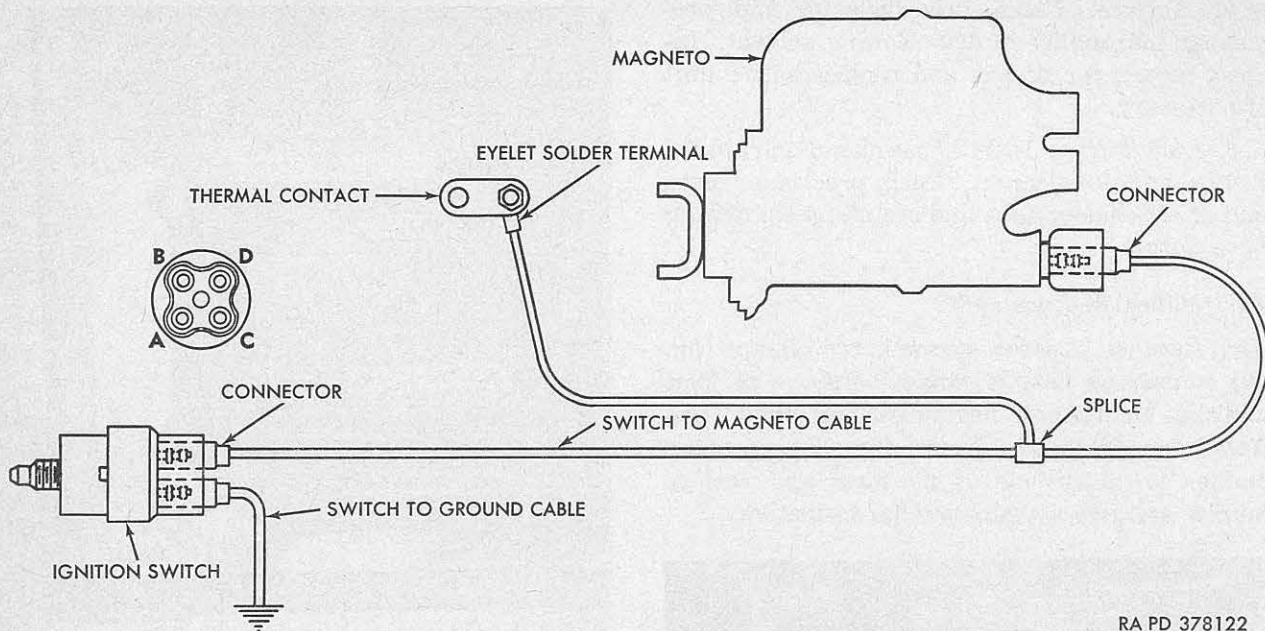
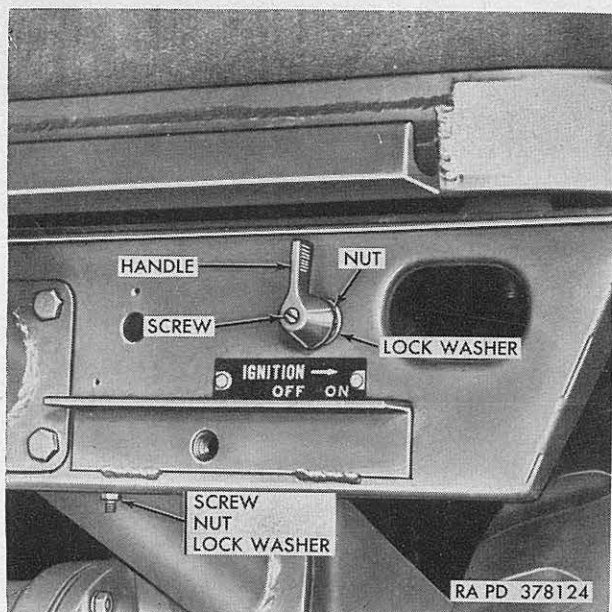

Figure 51. Switch, magneto, and thermal contact wiring.
Figure 53. Ignition switch.
*a. Ignition Switch to Magneto Cable Removal.* Pull connector on front end of cable out of upper socket "A" on rear of ignition switch (fig. 51). Pull connector on rear end of cable out of socket on front end of magneto (fig. 16). Remove hex nut, lockwasher and plain washer securing eyelet
front end of magneto (fig. 16). Push connector on front end of cable into upper socket "A" on rear of ignition switch (fig. 51). Secure eyelet solder terminal on cable to stud on thermal contact with plain washer, internal teeth lockwasher and No. 10-32 brass hex nut. Position cable so that there will be slack at all three ends, and secure to flange on platform with eight clips.
*c. Ignition Switch to Ground Cable Removal.* Pull connector on end of cable out of right socket "B" on rear of ignition switch (fig. 51). Remove nut, lockwasher and screw (fig. 53) securing eyelet solder terminal on other end of cable to lower edge of front bed support crossmember. Remove clip and cable from crossmember.
*d. Ignition Switch to Ground Cable Installation.* Secure eyelet solder terminal of cable to lower edge of front bed support crossmember with No. 10-24 x 1/2 roundhead screw (fig. 53), internal teeth lockwasher and hex nut. Push connector on other end of cable into right socket "B" on rear of ignition switch (fig. 51). Secure cable to lower edge of crossmember with clip.
*a. Removal.* Pull switch to magneto cable (fig. 51) out of socket "A", and switch to ground cable out of socket "B" on rear of ignition switch. Remove screw (fig. 53) and lockwasher securing
positioning lug on front of switch case fits into positioning hole in crossmember. Secure with  $\frac{1}{2}$ -inch internal teeth lockwasher (fig. 53) and special nut. Position switch handle on shaft and secure with lockwasher and No. 8-32 fillister head screw. Push connector on end of ignition switch to ground cable into socket "B" on rear of switch. Push connector on end of ignition switch to magneto cable into socket "A" on rear of ignition switch.